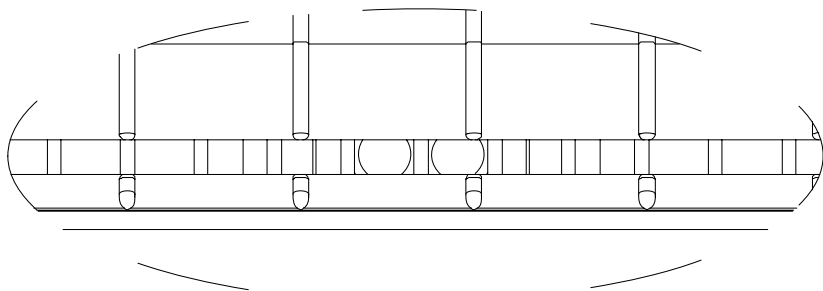

Figure 7-2
2. Turn the Handle to the “open” position, take out the Media Sensor Cover to expose the Media Sensor (Figure 7-2).